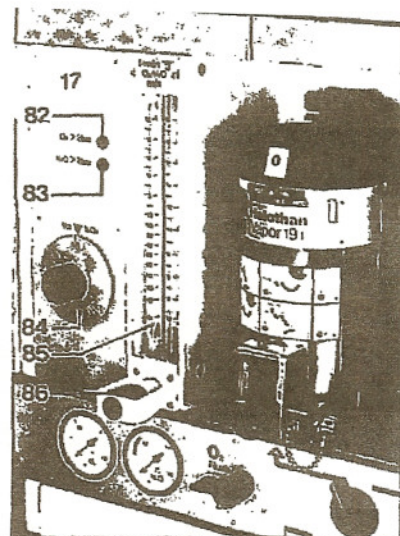

Fig. 16 Romulus 800 M (or 800 MV) - Controls
(Fig. 16 for Romulus 800 M/800 MV)
- With the N₂O supply shut off (cylinder and/or CS) open flow control valve 77 (for O₂) or 86 and check whether flow can be set over entire measuring range of appropriate flowmeters 75 or 85; make sure that floats move freely. For this test the setting of the blender (handwheel 84, Fig. 16) on the 800 M/800 MV model has no significance (arbitrary setting).
- Connect apparatus to central O₂ supply (Fig. 9). Open O₂ shut-off valve 39. With 800 M/800 MV model check whether green O₂ indicator 82 lights (Fig. 16).
Fig. 16 for Romulus 800 M/800 MV)
- Connect apparatus to central N₂O supply (Fig. 9). Open N₂O shut-off valve 40. With Romulus 800 M/800 MV check whether green N₂O indicator 83 lights (Fig. 16).